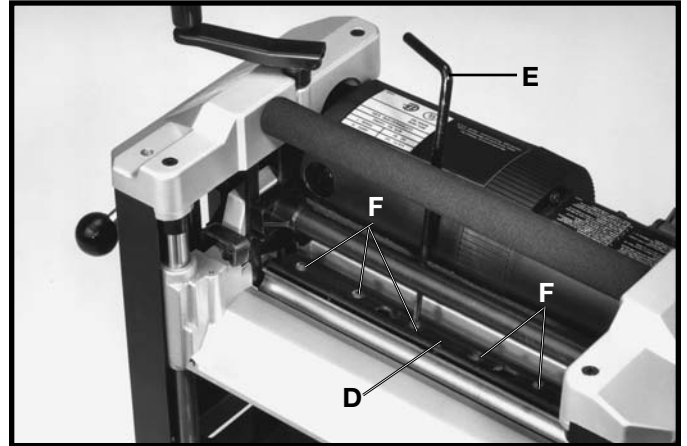

Fig. 27
6. Using the supplied wrench (E) Fig. 27, unscrew the six screws, five of which are shown at (F), only enough until locking bar (D) separates from knife, allowing knife to be removed.